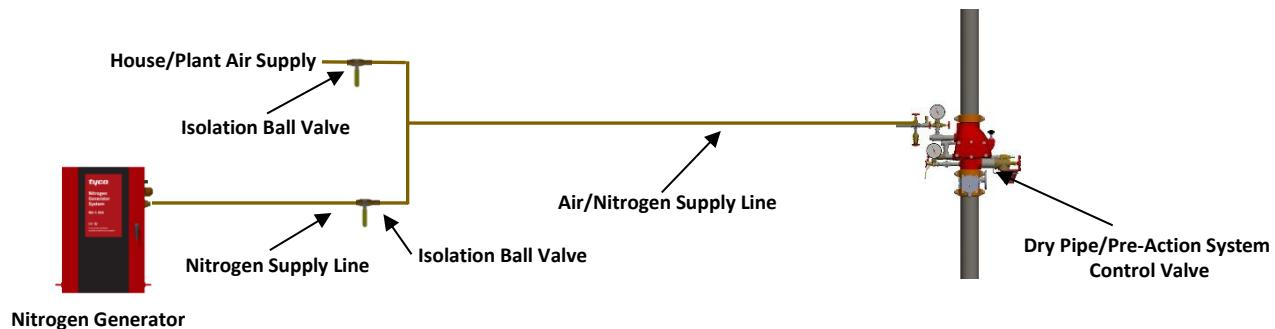

**Figure 3b**
**Step 3b: Plumb the Nitrogen/Air Supply Line – With Separate Air Compressor (Figure 3b)**